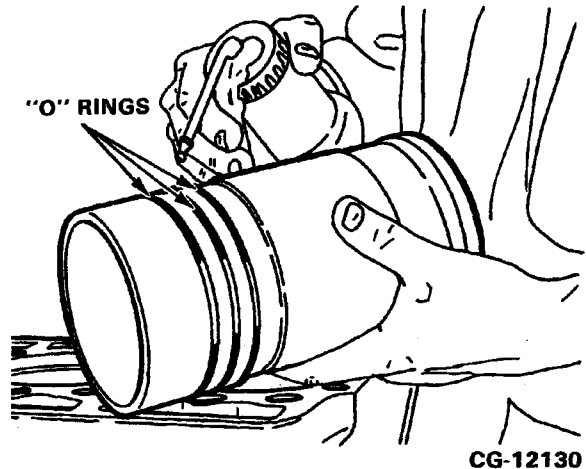

**Figure 6.52. Assemble Connecting Rod and Piston**
2. Assemble the piston and connecting rod as follows: Refer to **Figure 6.52**.